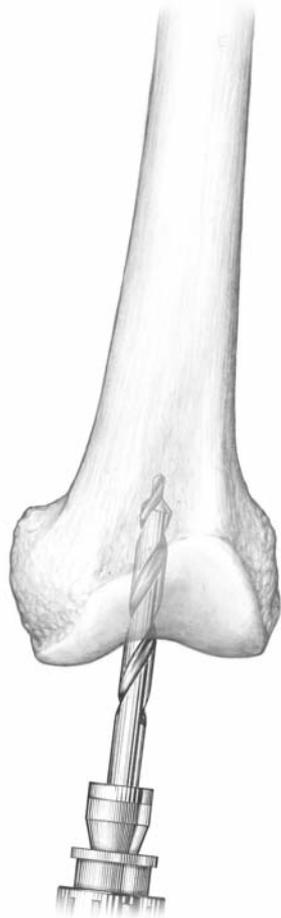

Figure 4
- ▶ The intramedullary canal is accessed by drilling a hole in the center of the intercondylar notch using the 3/8" diameter starter drill (Figures 4, 5).